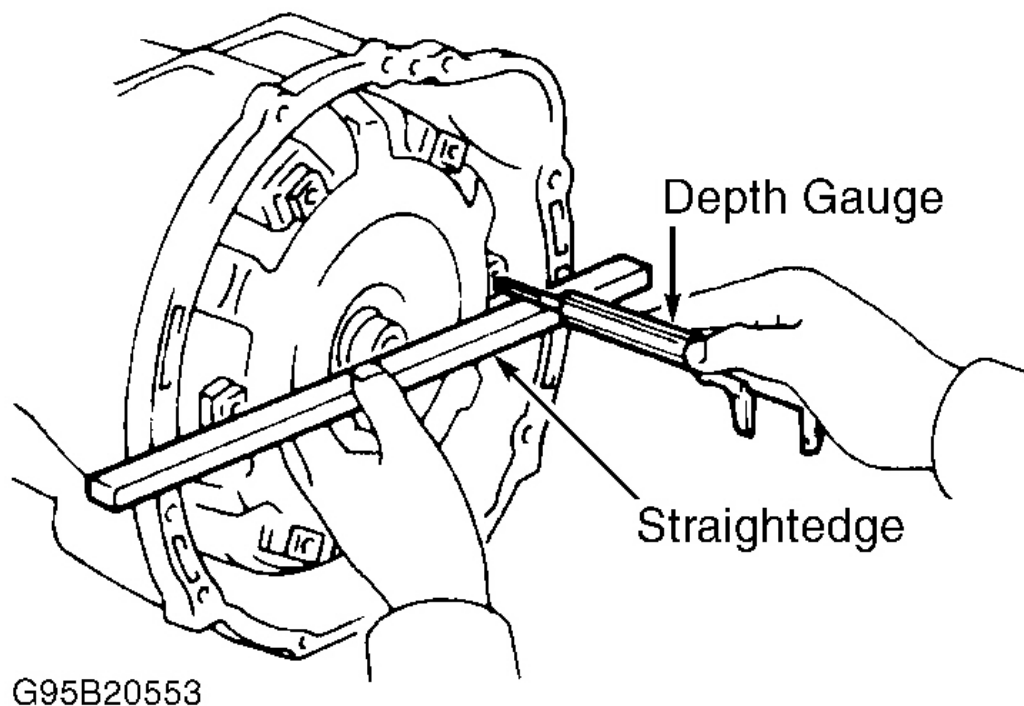

Fig. 60: Measuring Torque Converter Depth
29. Install control shaft lever. If throttle cable is new, stake stopper on inner cable. Install wire harness and throttle cable clamp. Install torque converter. Using straightedge and depth gauge, measure distance from front of torque converter to front mounting surface of transmission housing. Distance should be 1.22" (31.1 mm). See **Fig. 60** .